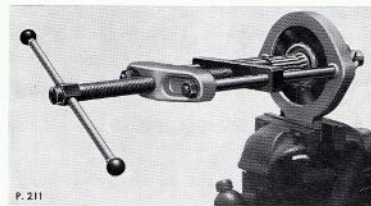

Fig. G.24. Withdrawing the inner bearing cone from the bevel pinion, using the Churchill Tool R.G.4221B and the adaptor set R.G.4221B-13
4. To remove the inner bearing cone from the bevel pinion, employ Churchill Main Tool R.G.4221B, in conjunction with the Adaptor Set R.G.4221B-13, as shown at Fig. G.24. The bearing may also be removed by applying a drift between the teeth of the bevel pinion and tapping alternately on opposite sides of the bearing cone, taking care not to damage the roller cage.